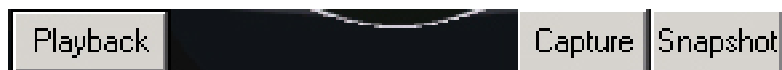

Figure 8
- Start Capture by selecting on the Capture button (**Figure 8**).